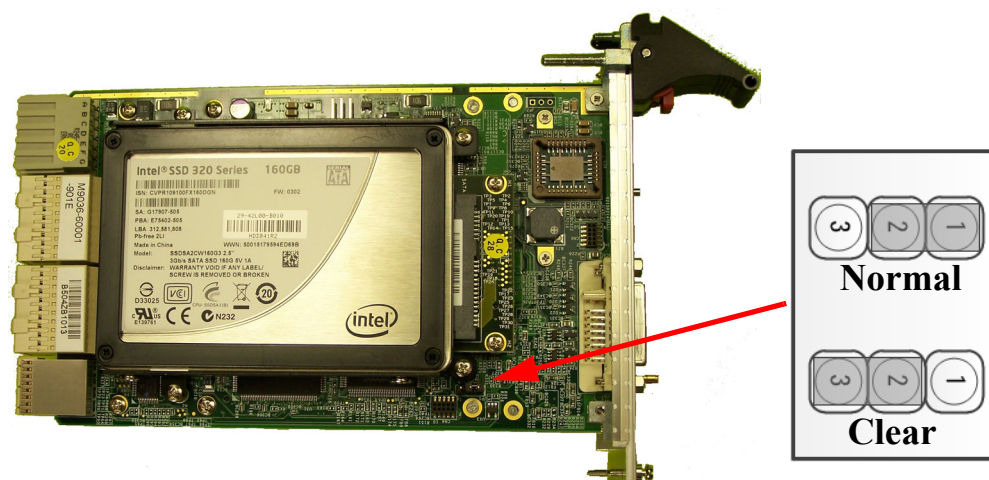

Figure 13 Clear CMOS Jumper JP1
- 3 Locate the JP1 jumper on the board. Move the jumper from Normal to Clear (short pin#2 and pin#3). Refer to Figure 13 below.